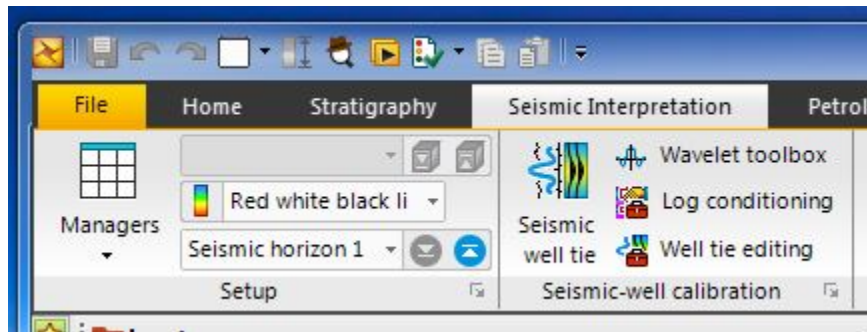

Figure 1: Petrel Seismic well tie button.
1. In the Seismic interpretation toolbar tab > Seismic-well calibration group > click on the Seismic well tie button (*Figure 1*).